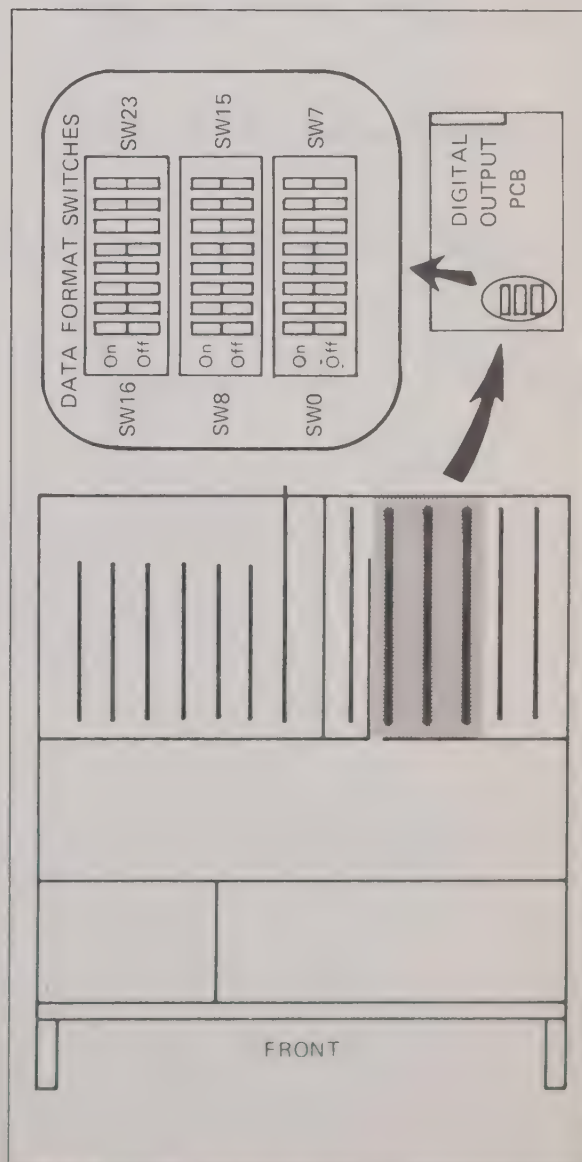

Figure 613-1. Digital Output PCB, Installation and Switch Locations
613-10. Up to three Digital Output PCB's can be mounted in the data loggers I O slots, as shown in Figure 613-1. Install each output pcb as follows:
- c. Locate the Data Format switches on each Digital Output PCB as shown in Figure 613-1.